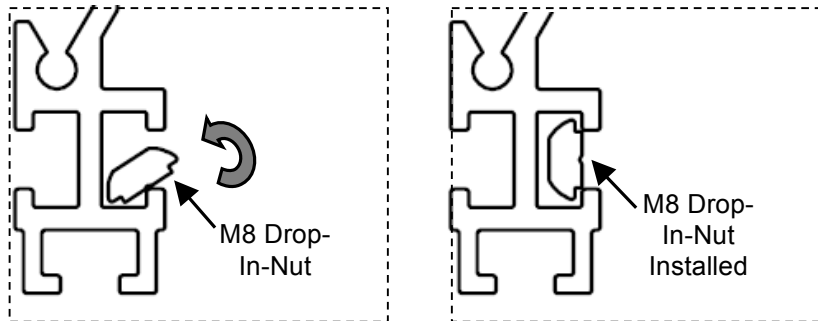

Fig. 5
1. Insert Drop-In Nuts in slides (Fig. 5)